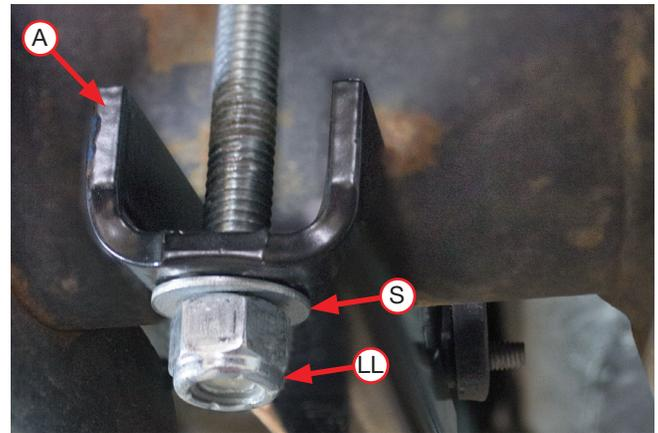

Fig. 38
If you have a sway bar, insert the carriage bolts through the clamp bar (A) as you set the assemblies into position over the axle (see Fig. 38).
- If not already completed (sway bar noted earlier), set the lower clamp bars (A) over the carriage bolts located under the axle (Fig. 38). Attach with 3/8" flat washers (S) and nylon lock nuts (LL). Evenly torque the lower clamp bar hardware to 16 lb.-ft. (22Nm).